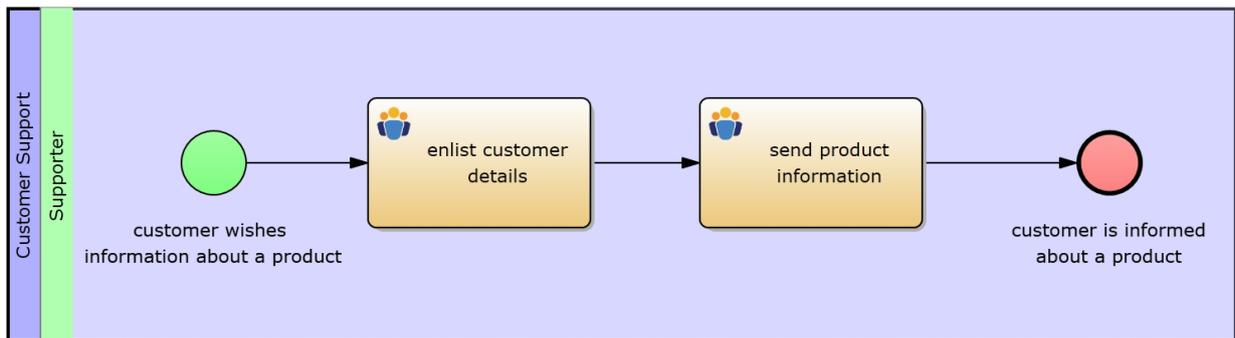

Figure 1: Collaboration Diagram of the example process / YOPRO link
- Create a collaboration diagram and model the process (figure 1)